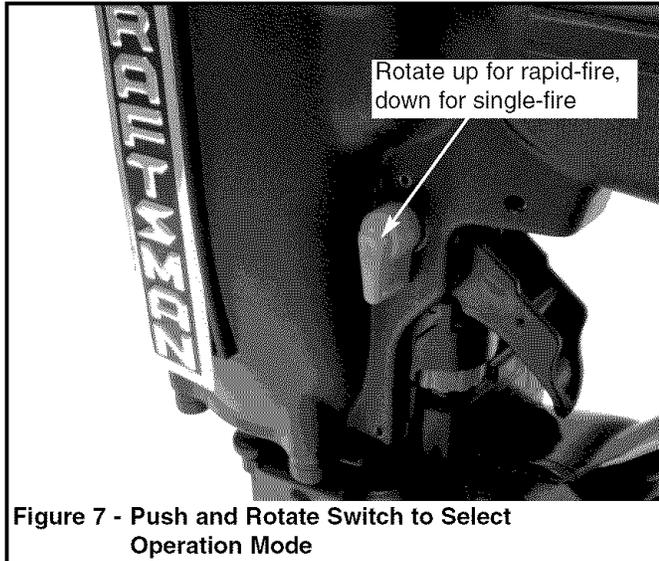

Figure 7 - Push and Rotate Switch to Select Operation Mode
Refer to Figures 7 through 10 (page 5).
- The tool is equipped with a rotating switch that can be set to rapid-fire or single-fire mode (see Figure 7). When the switch is set to single-fire mode, the tool will not drive a second fastener until the trigger is fully released and pulled again.